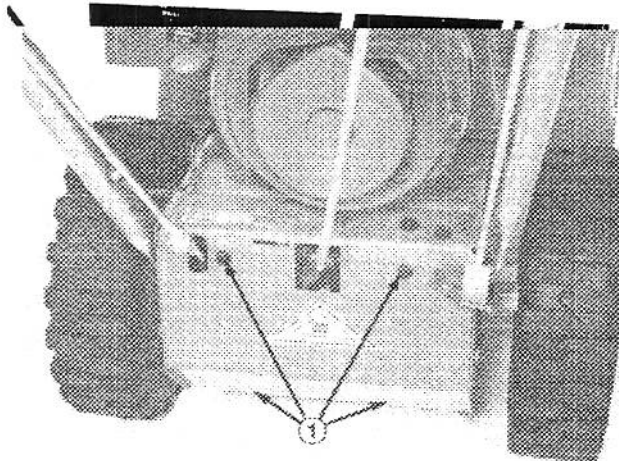

Figure 33
1. Remove four capscrews securing bottom cover to frame. Remove bottom cover (Fig. 33).